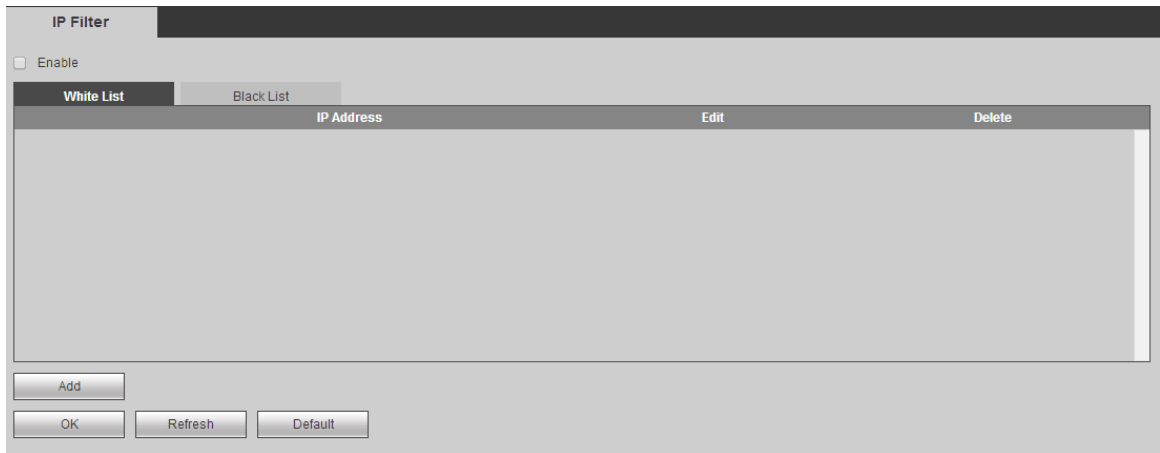

Figure 4-50
Step 1 Select “Setup>Network>IP Authority”. The system displays “IP Authority” interface, as shown in Figure 4-50.